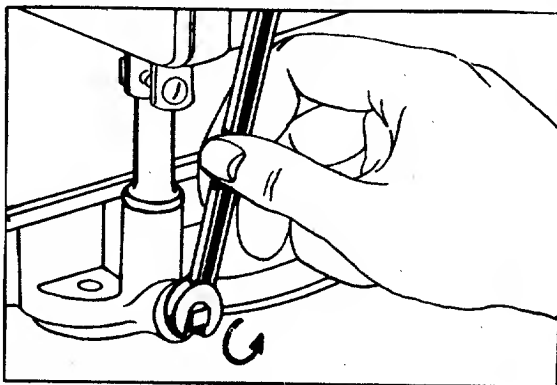

FIGURE 16. OIL DRAIN
After the first five hours of operating a new engine, drain the oil (See figure 16.) from the crankcase while engine is still hot and refill crankcase with new oil; thereafter change the oil every 25 hours of operation. This procedure ensures for minimum wear of engine parts and provides for virtually trouble-free operation. To change the oil, proceed as follows:
Step 1. With the machine on level ground, place a suitable metal container under the oil drain plug, then remove the drain plug. See figure 16